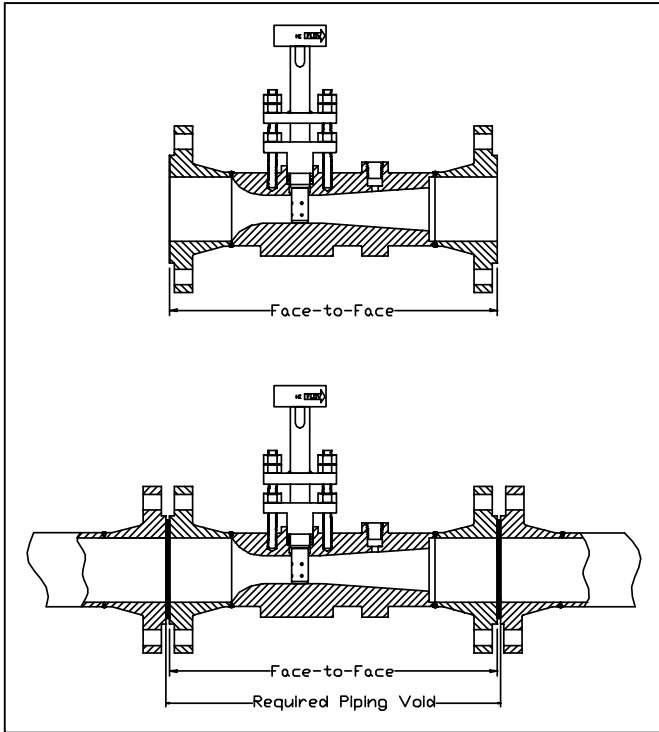

Figure 2. Face-to Face Dimension
Note: The Face-to-Face dimension does not include gaskets (see Figure 2). Veris recommends adding
- Position Accelabar in piping void that has been prepared per Figure 2. Be certain that the flow arrow on the Verabar Sensor is oriented in the same direction as the flow in the pipe. Failure to orient the Accelabar correctly will result in poor flow measurement.